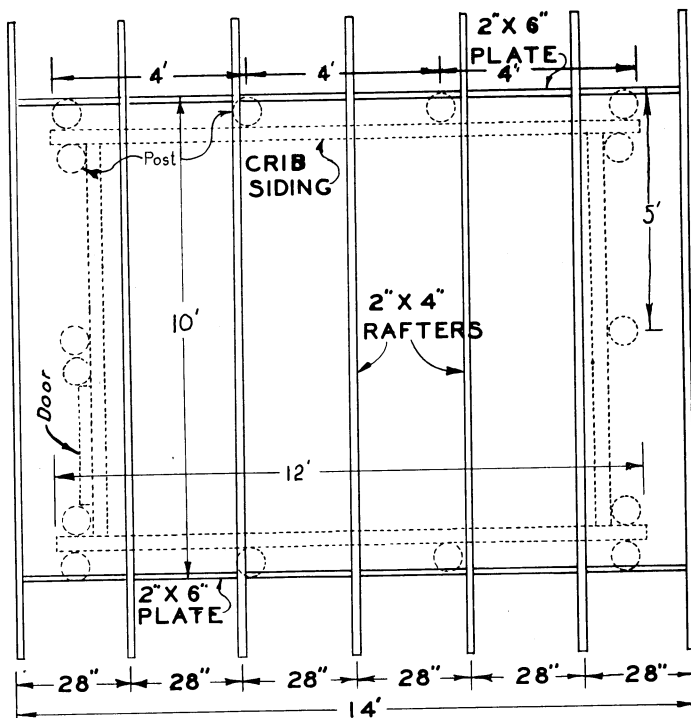

Figure 1. Ground and roof framing plan for 10' x 12' pole crib.
**Placement of Poles:** Figure 1 shows the ground or floor plan for locating poles for the 10' x 12' crib. Twelve foot poles are used for the front, with 10 foot lengths for the back and ends. The crib should face the South or East for greatest protection from the weather.